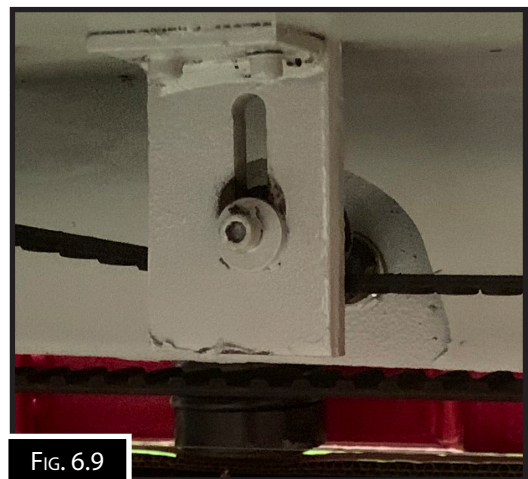

FIG. 6.9
2. Loosen the socket head screw and adjust the belt (Fig.6.9)